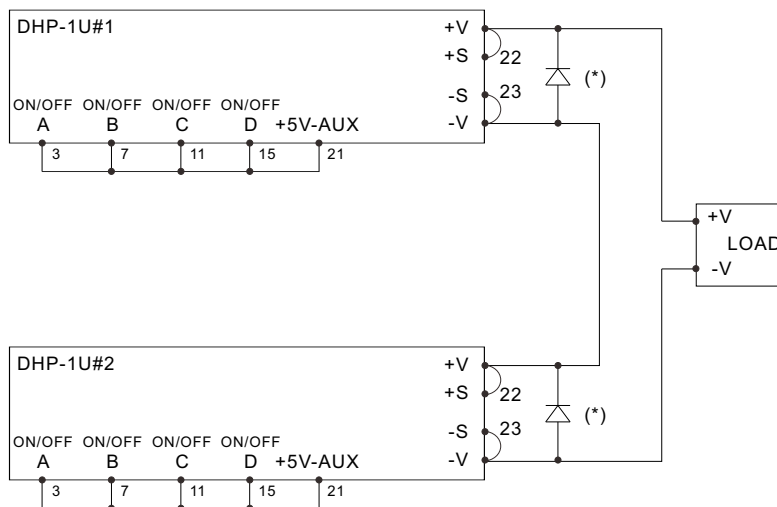

Figure 3-9 Configuration of rack shelf units in series
- ◎ The rack shelves (DHP-1U□) connected in series should have the identical units. Please refer to Figure3-9 for wiring configuration.
- ◎ It is suggested that add external diodes (*) on the output, shown in Figure 3-9, to prevent reverse voltage. Rating of these diodes should be higher than the total amount of output voltage and current.